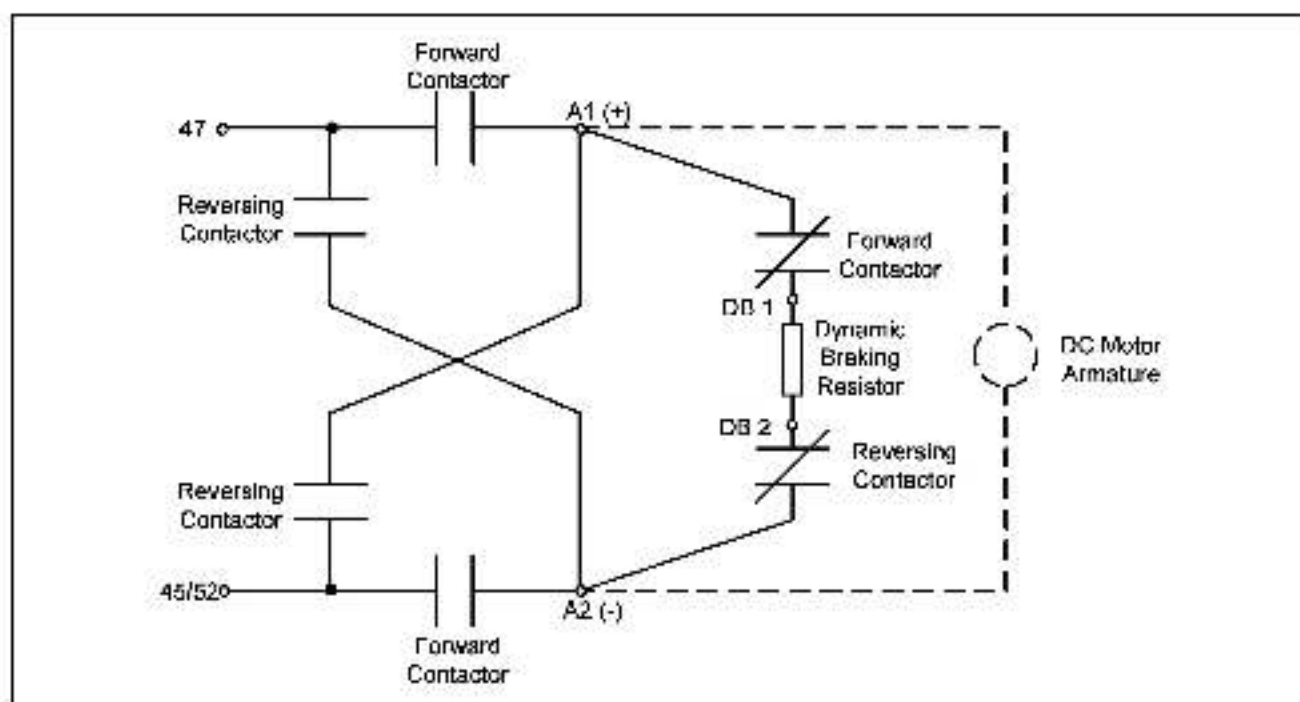

Figure 4 – Dynamic Braking Resistor Schematic for Non-Regenerative Drives with a Reversing Contactor
- Step 9. **For non-regenerative MinPak Plus DC drives with a Reversing Contactor:** Connect the dynamic braking resistor between corresponding normally closed (NC) contacts on the forward contactor and the reversing contactor. These contacts are to the rear of the contactors. This places the resistor across the motor armature (A⁺ and A²) when the contactors are de-energized. Refer to figures 4 and 6.